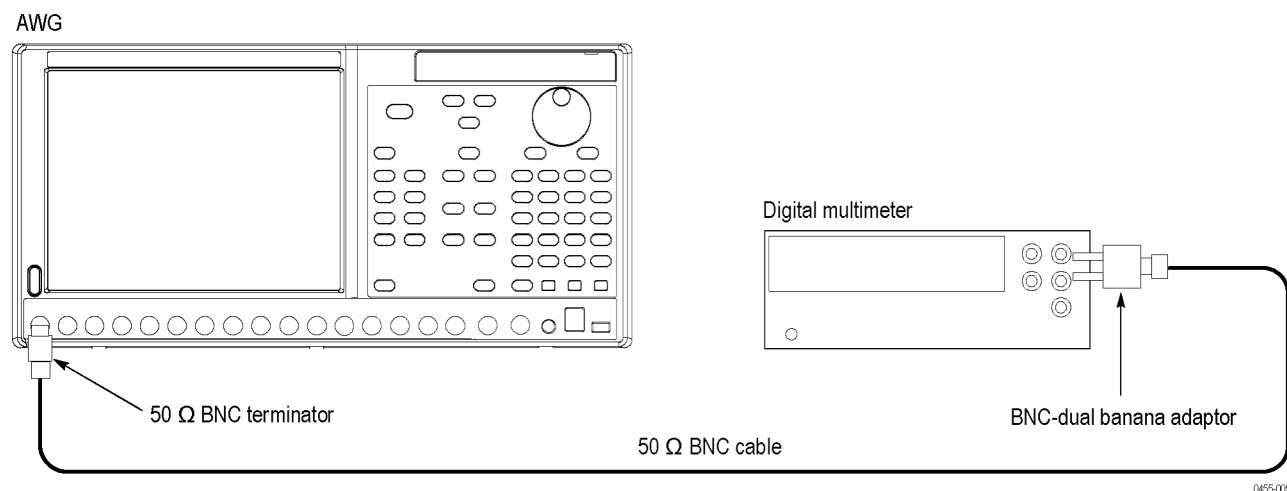

Figure 9: Equipment connection for verifying the analog offset accuracy
3. Use the 50 Ω BNC cable, 50 Ω BNC termination, and BNC-dual banana adapter to connect the Channel 1 Analog connector on the instrument to the HI and LO inputs on the digital multimeter. (See Figure 9.)